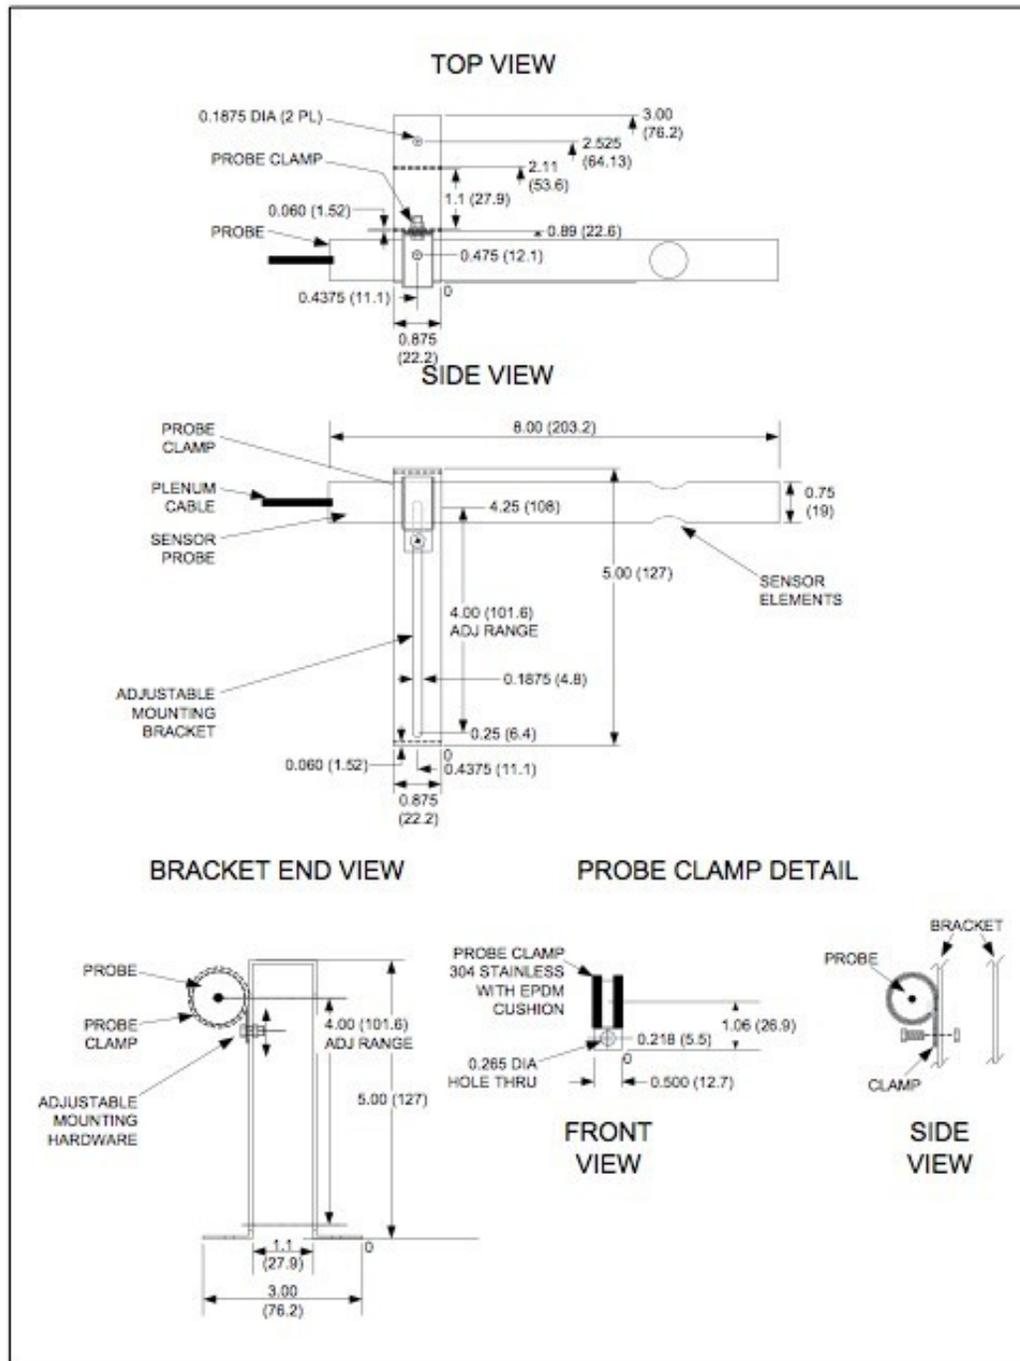
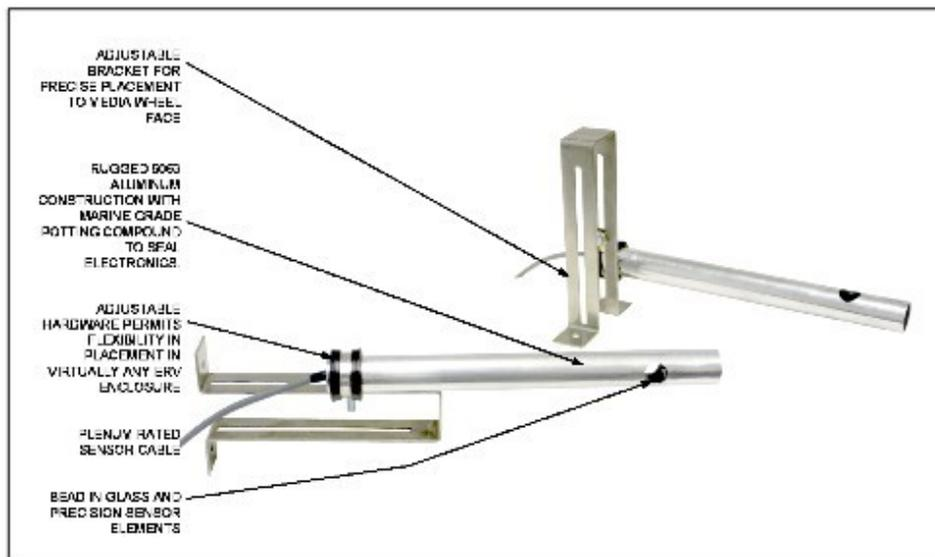

Figure 4. S-110 Airflow Probe and Universal Bracket Detail Views
Figure 7. Airflow Probe and Universal Bracket Detail View
Figure 7 is a detail view of the Airflow Probe and universal bracket. Refer also to Figure 4 for dimensional details.
2. Install the supplied universal adjustable mounting brackets as shown in Figures 4, 7 and 8. The brackets can be adjusted to suit a wide variety of HRW media wheel enclosure applications.
4. Adjust the brackets and probe clamp as shown in details of Figures 4, 7 and 8 in order to establish 0.50 to 1.00 inch (12.7 to 25.4 mm) clearance between the HRW media wheel face and the airflow probe.
8. Route the **OA** probe cable to the intended location of the DRI-1000-A Controller/Display unit. The OA probe connector measures outside airflow stream and will be connected to the **left (OA) connector** on the DRI-1000-A Controller unit.
10. Route the **EX** probe cable to the intended location of the DRI-1000-A Controller/Display unit. The EX probe connector measures exhaust airflow stream and will be connected to the **right (EX) connector** on the DRI-1000-A Controller unit.